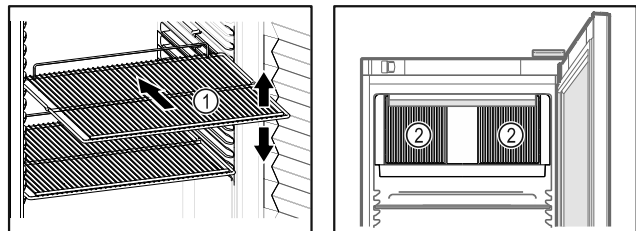

Fig. 71 Example illustration Fig. 72
- If there are adjustable shelves Fig. 71 (1), position them as required.